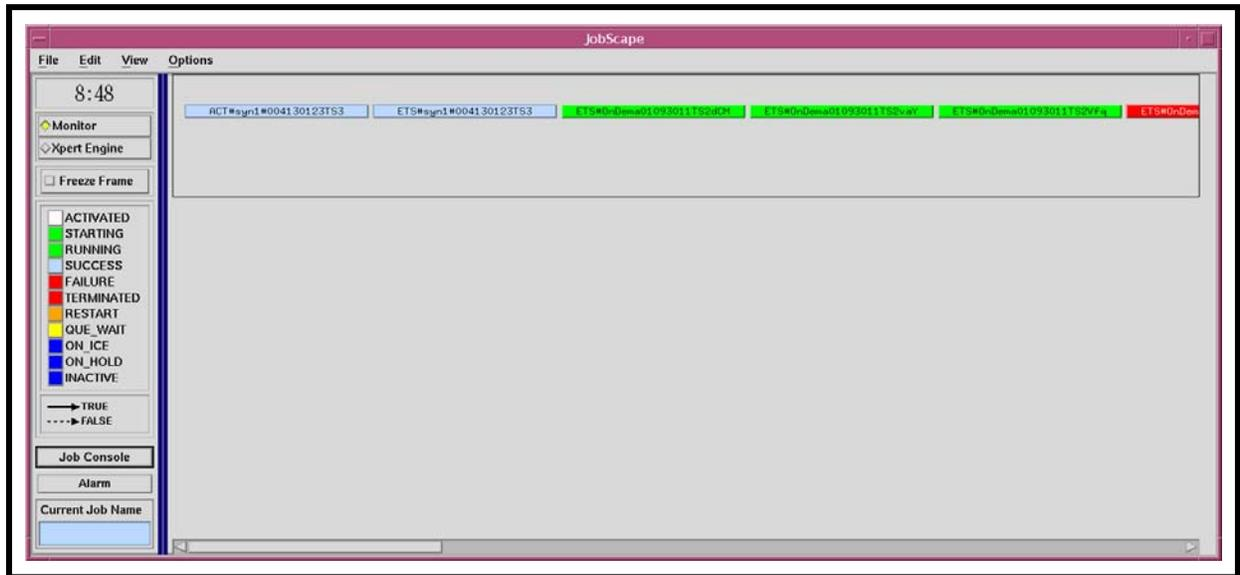

Figure 69. JobScope “One Level” View
- Selecting **1** provides a display of the box level only, as shown in Figure 69.